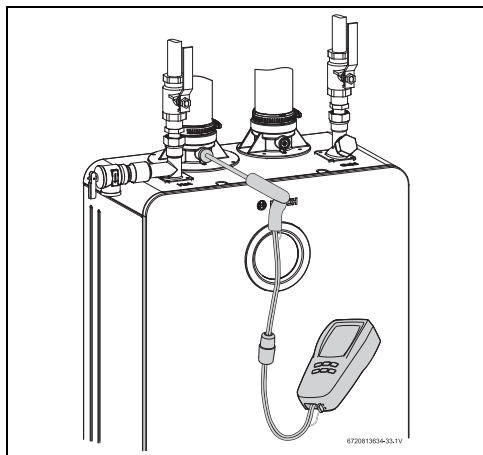

Fig. 60 Measuring port
- ▶ Remove the screw from the flue adaptor on the left side of the appliance, as seen in fig. 60.